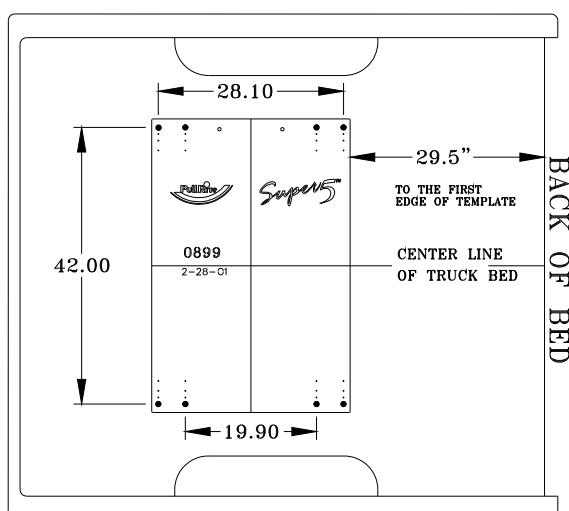

Figure 2
3. While standing on the template, use a 1/16" drill bit to mark the bed at each hole location indicated (See figure 2 this page).
2. Once the bed hole pattern location is satisfactory, center punch all hole locations. Or for template method drill 1/16" holes at each location on the template (see figure 2 page 5)